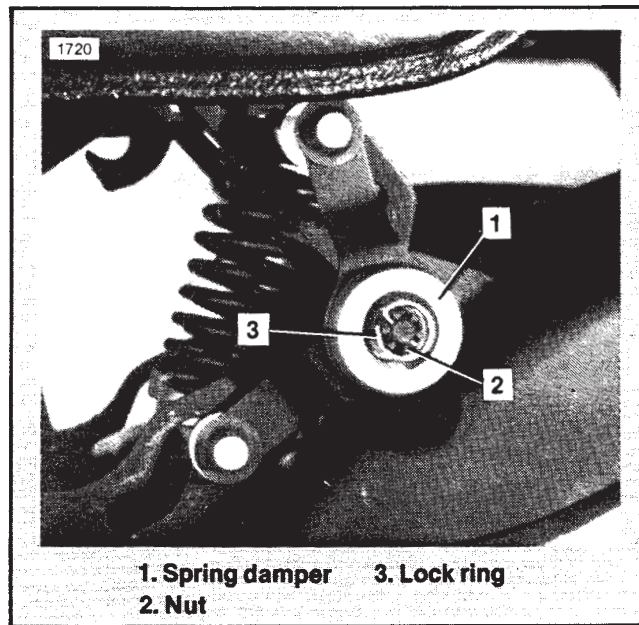

Figure 20. Seat Damper Adjustment
See Figure 20. Seat spring damping is controlled by spring damper (1) located on the left side of the seat.